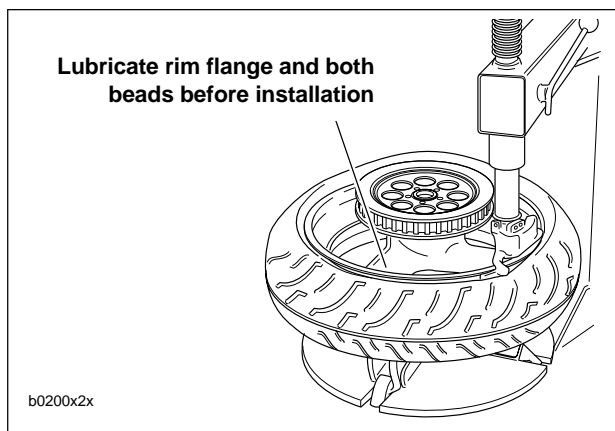

Figure 2-32. Starting Bead on Rim
4. See Figure 2-32. Starting at the valve stem, start first bead into the rim well using a bead breaker machine. If no machine is available, work bead on as far as possible by hand. Use a tire tool to pry the remaining bead over rim flange.